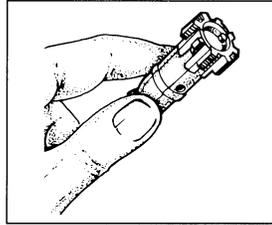

Figure 10-26. Holding the Extractor Pin in
- c. Push the extractor pin in (figure 10-26).